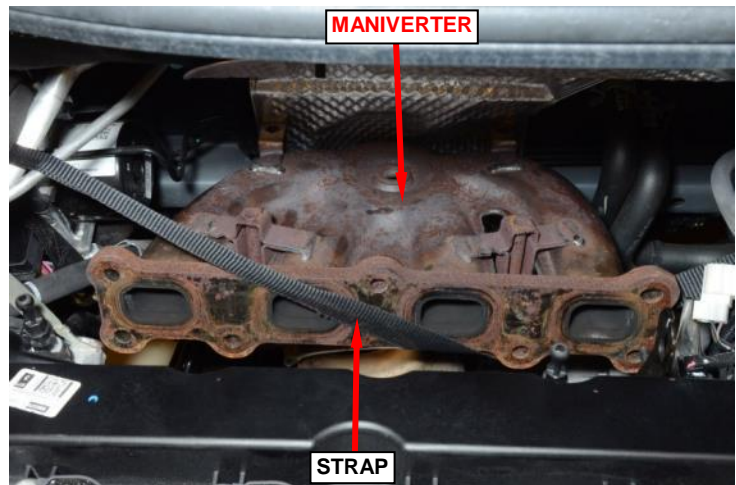

Figure 45 – Maniverter Secured
- f. Using a suitable strap, secure the **maniverter** rearward against the cowl away from the engine to provide adequate engine removal/installation clearance (Figure 45). It is not necessary to remove the **maniverter** from the vehicle.